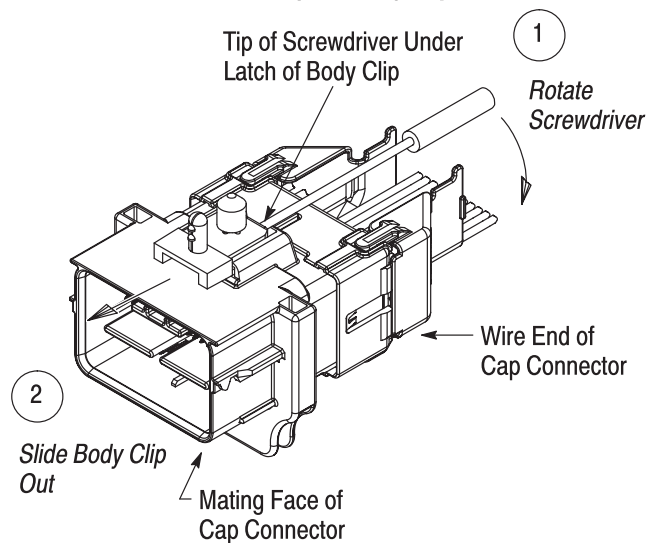

Figure 10
1. From the wire end of the cap connector, slide the tip of a flat blade screwdriver into the hold-down retainer so that it is under the latch of the body clip. See Figure 10.